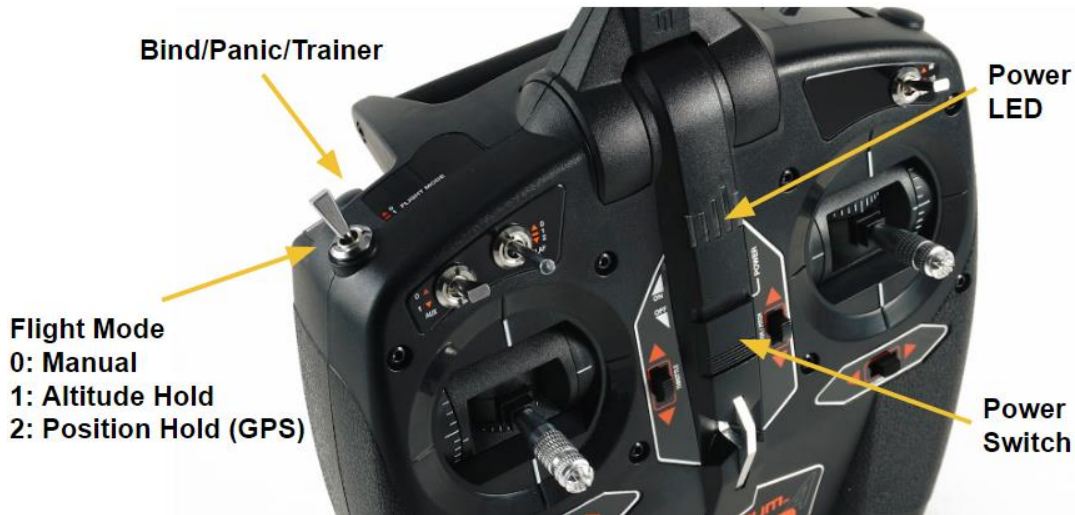

Figure 4. Remote Control Transmitter
- d. Prepare the remote control transmitter (see Figure 4)
The orange LED on the remote control receiver is blinking.	This indicates the remote control transmitter and receiver are not properly bound (paired). To bind the transmitter and receiver, follow the Power OFF procedures outlined in the Getting Started Guide. Then first turn on the drone (receiver). After a few seconds, the receiver's orange LED will begin to blink indicating it is waiting to bind. With the LED blinking, turn ON the transmitter while holding down the black panic/bind/trainer button that is immediately adjacent to the Flight Mode toggle switch on the top-left of the transmitter (see Figure 4). If the binding process is successful, the receiver's orange LED will have a steady orange glow. This binding will be remembered in the future as long as the transmitter is always turned on before the drone is turned on. More information on the binding process can be found in the user guide for the Spektrum SPM4648 DXMX receiver, found online: https://www.spektrumrc.com/ProdInfo/Files/SPM4648-Manual-EN.pdf
The Flight Mode toggle switch (Figure 4) is pre-programmed to